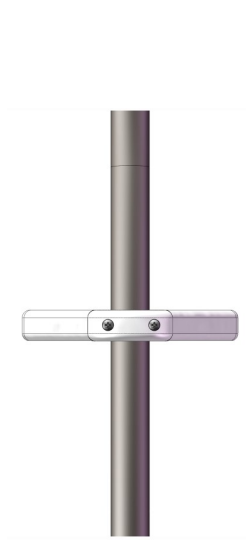

Figure 16: Proper installation.
4. Ensure proper orientation of small piece. See figure 16.